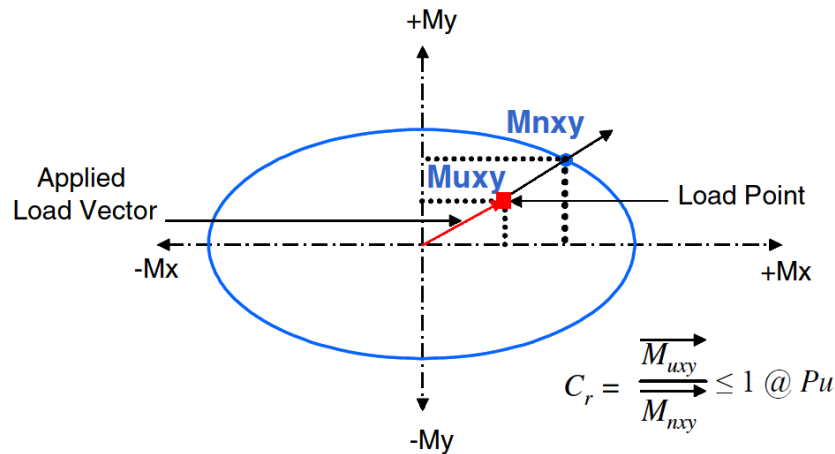

Figure 5.5 Capacity Ratio Based on Moment Vector at P
- Moment Vector at P: It is defined as the ratio of the length of moment vector to the moment capacity vector at the axial load (P_u) as seen in Figure 5.5. The moment capacity is determined by cutting the capacity interaction surface at the given axial load to get a M-M interaction curve.